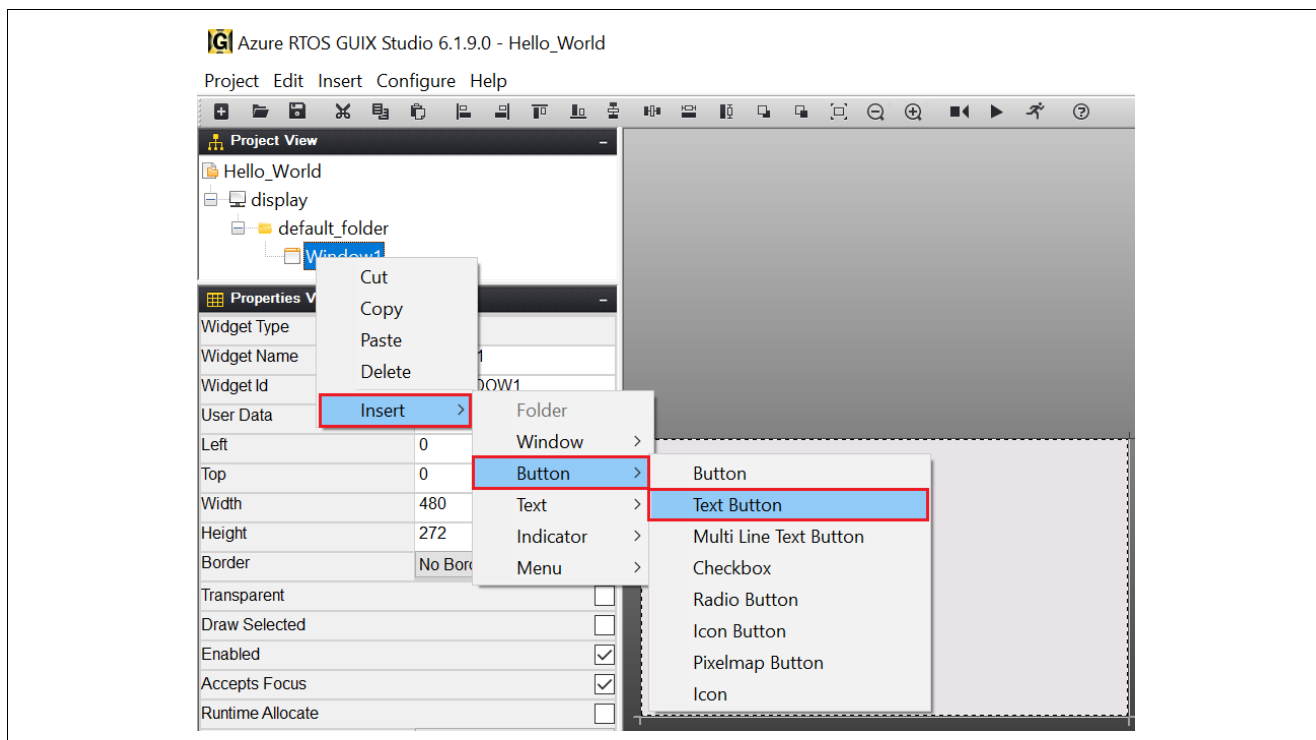

Figure 59. Insert Text Button
- 5.8 Right-click on **Window1** to insert a **Text Button** and follow Figure 59.